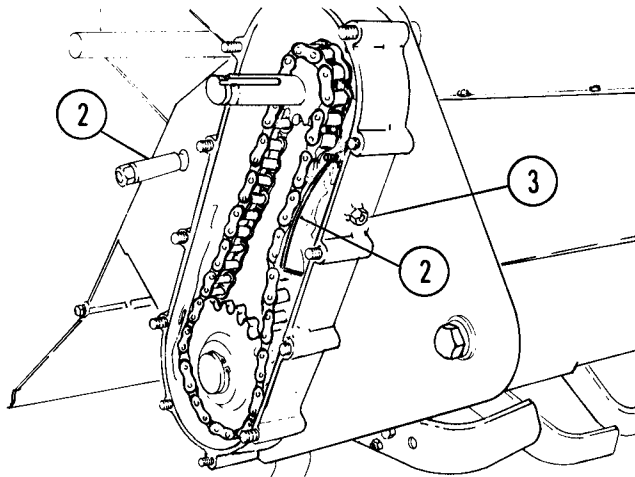

Fig. 20 — Cover Plate Removed
10. Loosen adjuster, 3, Figure 20, to reduce tension on internal drive chain.